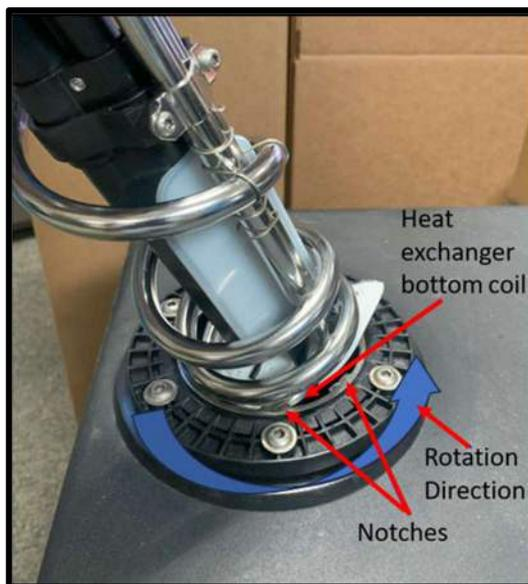

Figure 2.8 Installation of Head Unit
- 6) Insert the bottom coil of the heat exchanger into the adapter by pushing the head unit into the tank while rotating it counterclockwise as shown in **Figure 2.8**